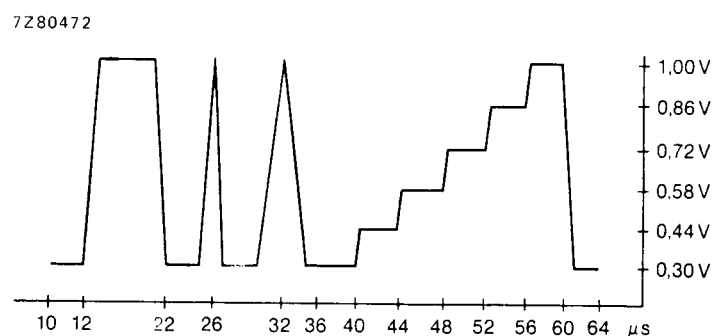

Fig. 4 E.B.U. test signal - line 330.
6. Measured with test line as shown in Fig. 4. The differential gain is expressed as a percentage of the difference in peak amplitudes between the largest and smallest values relative to the subcarrier amplitude at blanking level. The differential phase is defined as the difference in degrees between the largest and smallest phase angles.